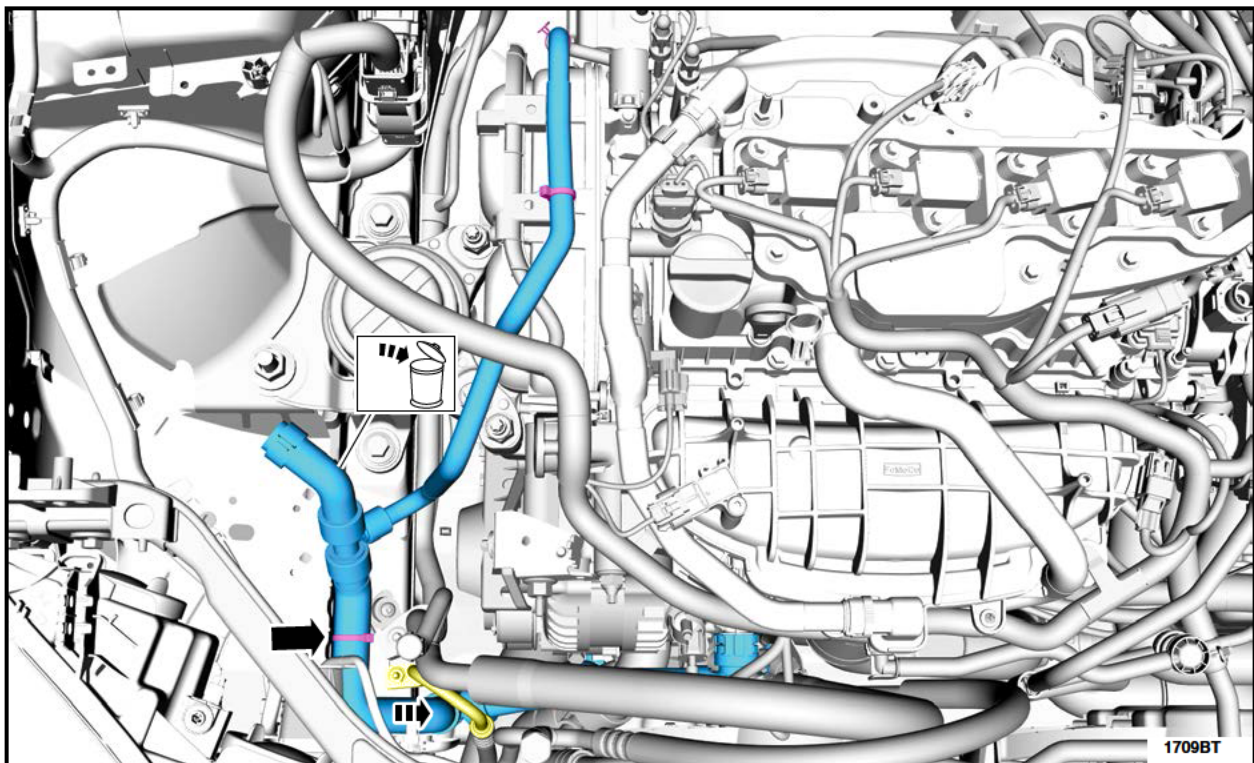

FIGURE I6
5. Detach the retainer, then route the degas hose assembly out from under the A/C line, to allow for easier removal. See Figure I6.